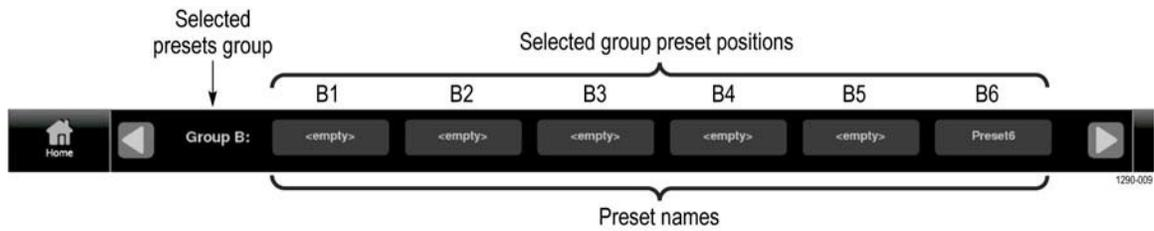

Figure 63: Preset selection controls (Group B shown)
- a. Select the **Presets** (★) icon to open the Preset selection controls at the bottom of the PRISM display. (See Figure 63.)